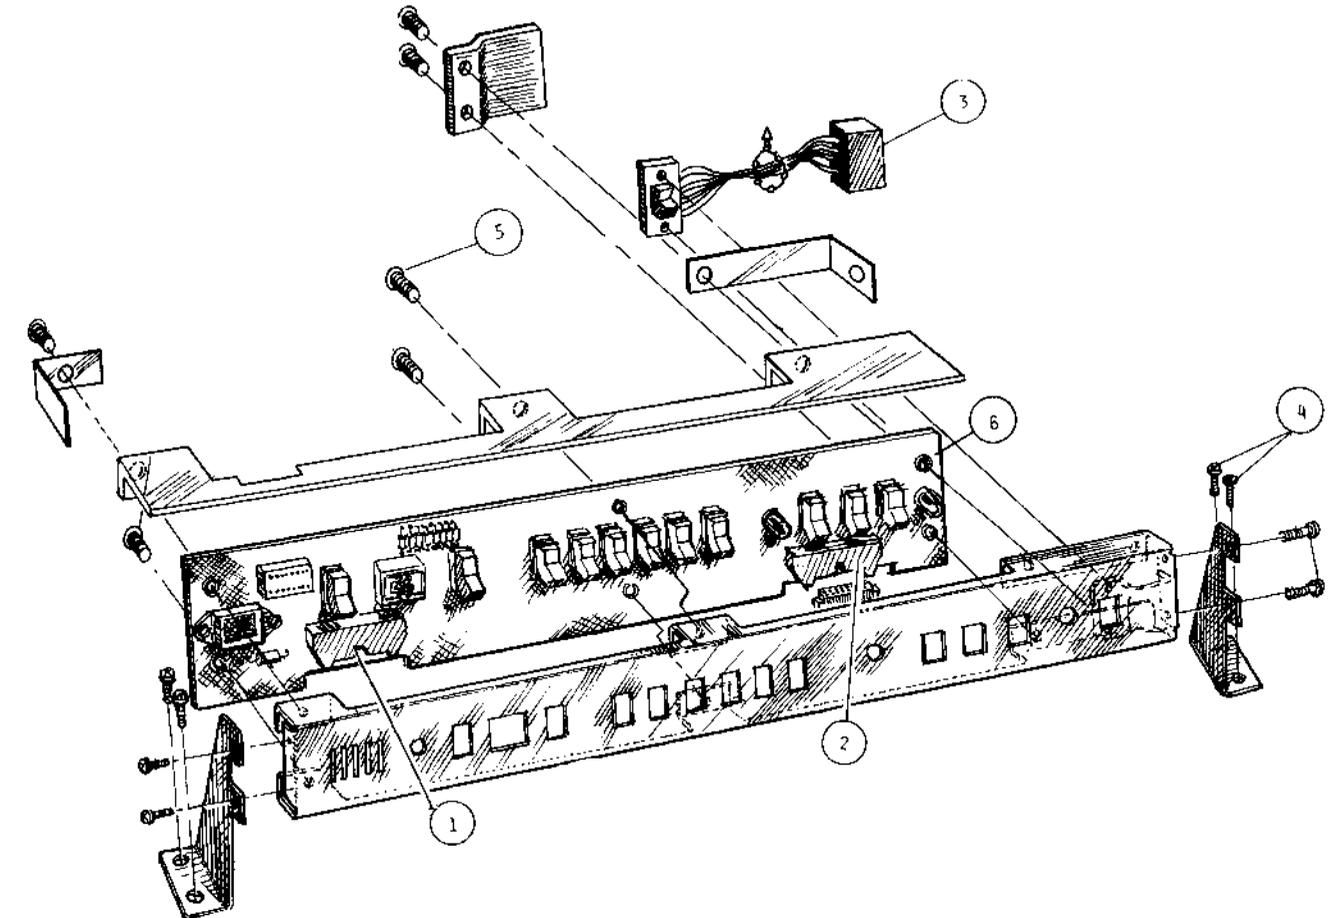

Figure 4-10 Operator Control Panel
##### 4.5.1 Disassembly (Figure 4-10)
- e. Remove control panel assembly by removing four screws (Item 4) that secure brackets to base (refer to Figure 4-10).